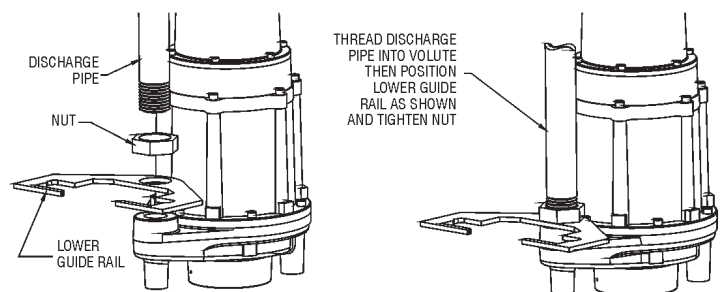
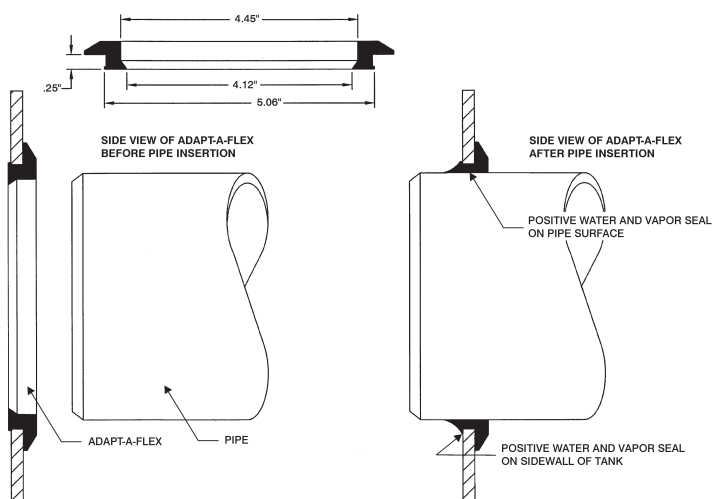

FIG. 1
FIG. 2
These instructions are for the typical installation of a Little Giant Pump Company Basin Package System. This package system includes a rugged polyethylene or fiberglass basin, equipped with either a guide rail system for easy access to the pump or a hard-piped system. The inlet to the basin is to be field installed (see Figures 2 and 4) and uses a 4" Adapt-A-Flex fitting. The hole for routing of the electrical cord(s) is to be field installed (See Figures 2 and 4) and uses a 2" Adapt-A-Flex fitting. These fittings are constructed from neoprene plastic, are easy to install and require no sealants. This design has boltless vapor and water leakproof sealing ability.
6. Plumb all inlet and discharge piping as well as the electrical piping for internal junction box (Not Included). Inlet pipe is recommended to be 4" Schedule 40 PVC to accommodate 4" Adapt-A-Flex fitting (see Figure 2 and step 5 for installation tips). Discharge piping for the pump and electrical cords is recommended to be either Schedule 40 or 80 1-1/4" PVC piping, depending on local codes and installer recommendation (see Figure 1). Basin is to be vented per local plumbing codes.
1. Fully thread the nut onto discharge pipe. Place lower guide rail onto discharge pipe, below the nut (See Figure 1).
(See Figure 2)